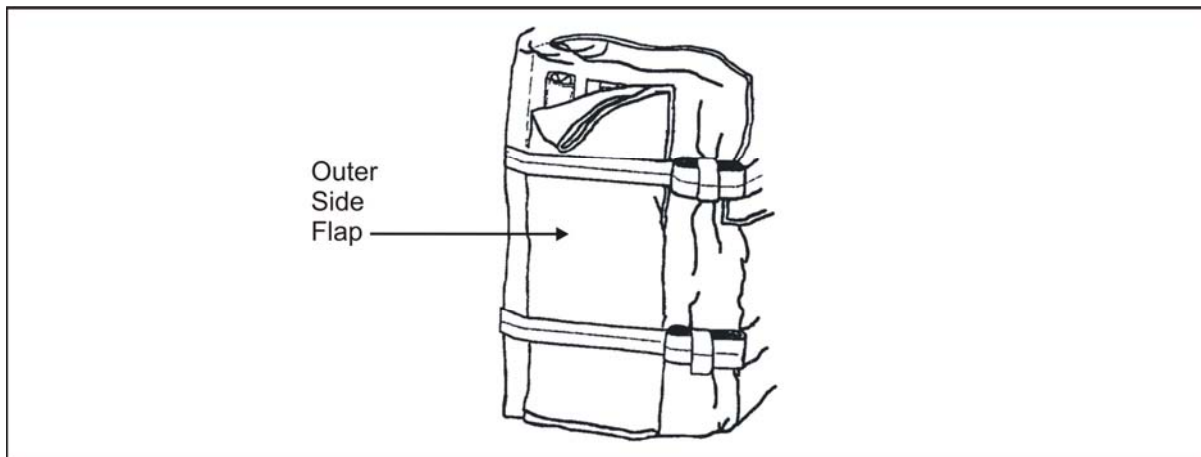

Figure 5-16. Side Flap
- Folds the outer side flaps in half and over the side pockets and straps (Figure 5-16, page 5-18).